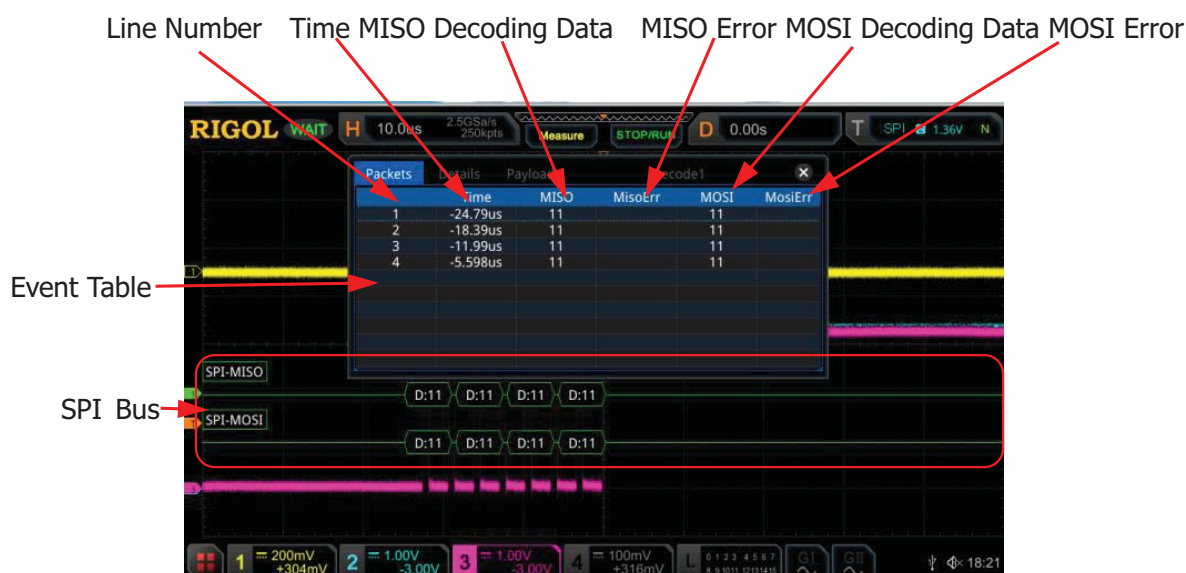

Figure 11-8 SPI Decoding Event Table
- Open or close the event table: Press **Event Table** continuously to enable or disable the event table. When you enable the event table, the following figure is displayed, as shown in Figure 11-8. You can also enable the touch screen to tap the icon  at the upper-right corner of the table to close the event table. Besides, when the operating status is "STOP", you can also rotate the multifunction knob  to select a specified line and view the corresponding decoding information.